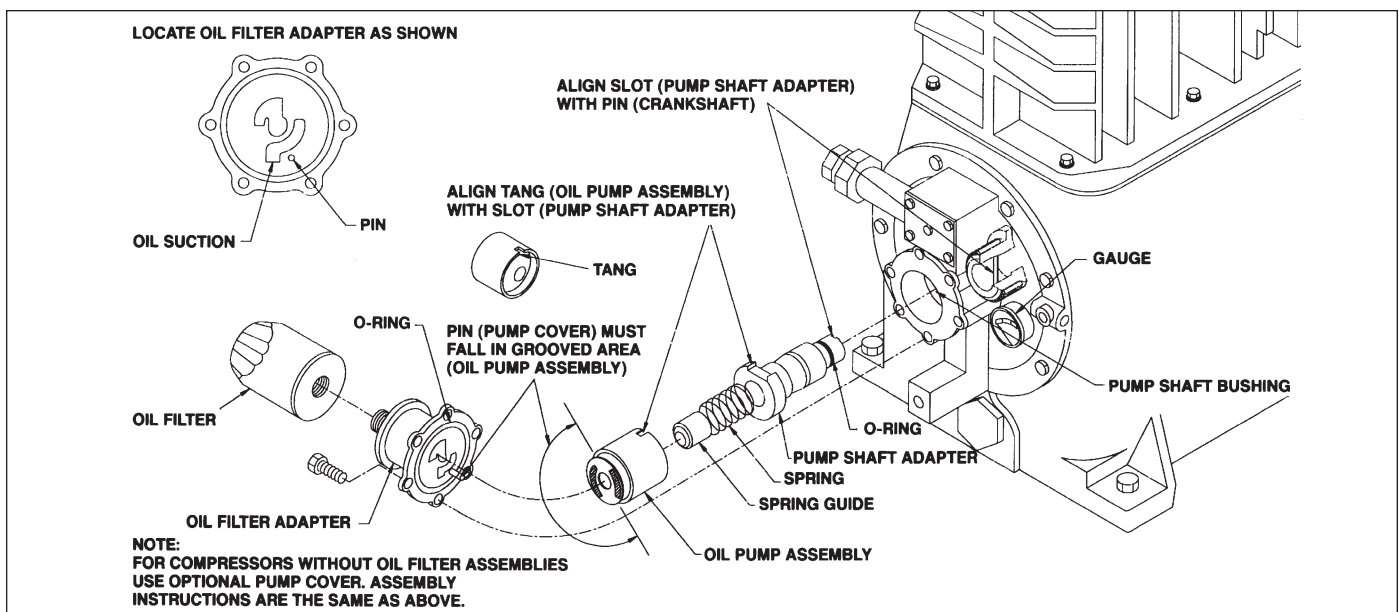

Figure 5.8
- Before reassembling the oil pump mechanism, replace the O-rings in the oil pump cover and on the oil pump adapter shaft (see figure 5.8).
- Install the pump cover so the pin on the case is in the opening on the oil pump assembly as shown in figure 5.8. When you are sure the pin is properly aligned, install the cover bolts finger tight.
- To check the oil pump, unbolt the pump cover and remove the oil pump, spring guide, spring, and oil pump shaft adapter as shown in figure 5.8.